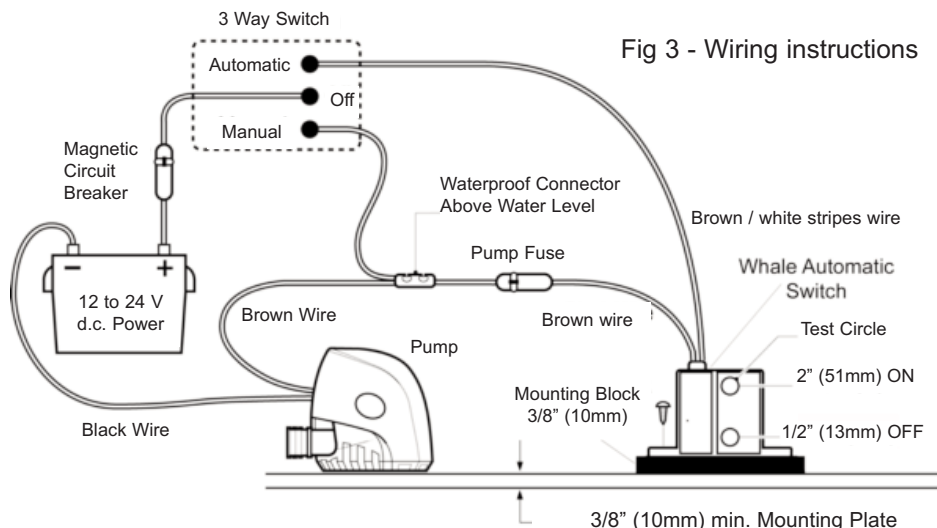

Fig 3 - Wiring instructions
- Follow the wiring diagram (Fig 3). All fuses and the circuit breaker **must be** properly rated for the bilge pump within the circuit (see pump instruction manual for guidance). The maximum circuit breaker must be is 20 Amps.